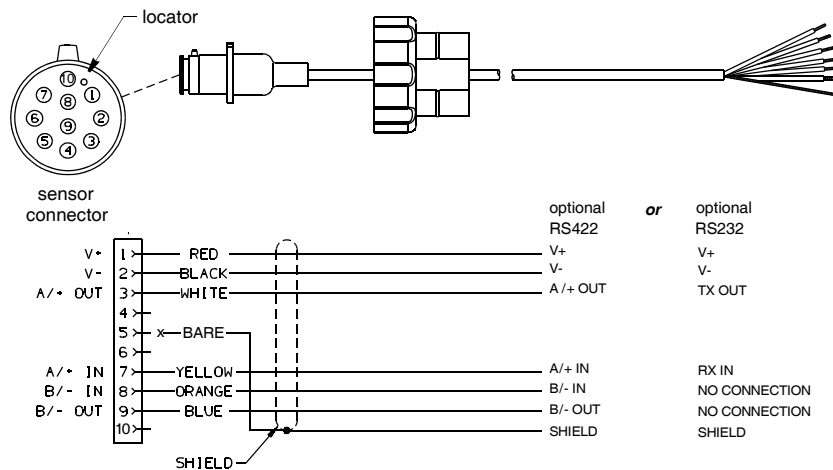

Figure 4. NMEA 0183 sensor cable
If your sensor cable does NOT have a connector on the display end, it must be hard wired. Referring to the owner's manual that came with your display, connect the colored wires as show in Figure 4.
CAUTION: Your sensor has either an RS422 or RS232 interface. You must follow the wiring diagram in Figure 4 that matches your sensor. If it is wired for the wrong interface, it will not transmit and receive data properly.
2. Strip 60 mm (2-1/2") of the outer jacket and foil shielding from the cut end of the cable (see Figure 4).